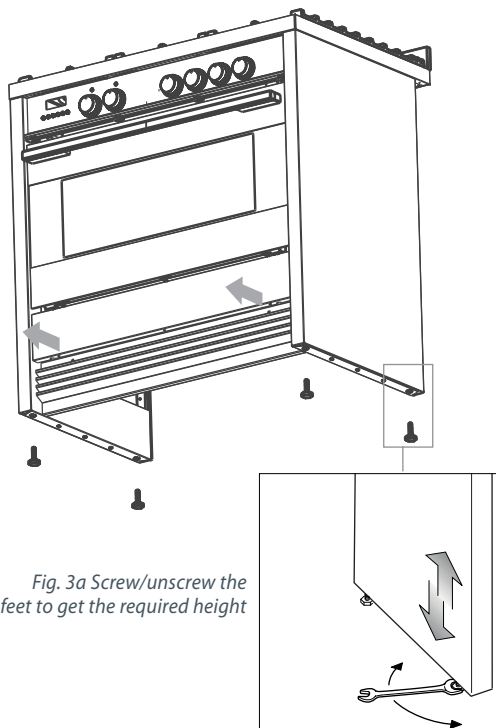

Fig. 3a Screw/unscrew the feet to get the required height
- Make sure you follow the instructions in Figs. 3a, 3b, and 3c.